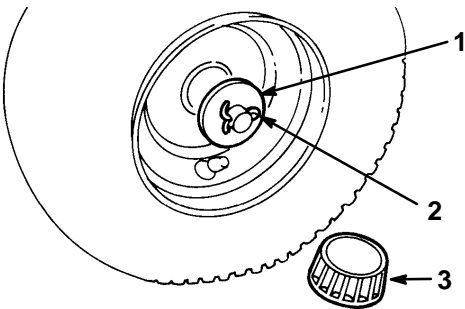

Figure 1
- 3. Slide the flat washer onto the axle. Insert cotter pin through the axle and bend the ends of the pin apart (Fig. 1). If cotter pin does not fit, remove shim washer(s) as required.
- 4. Push the hub cap (Fig. 1) onto the end of the axle.